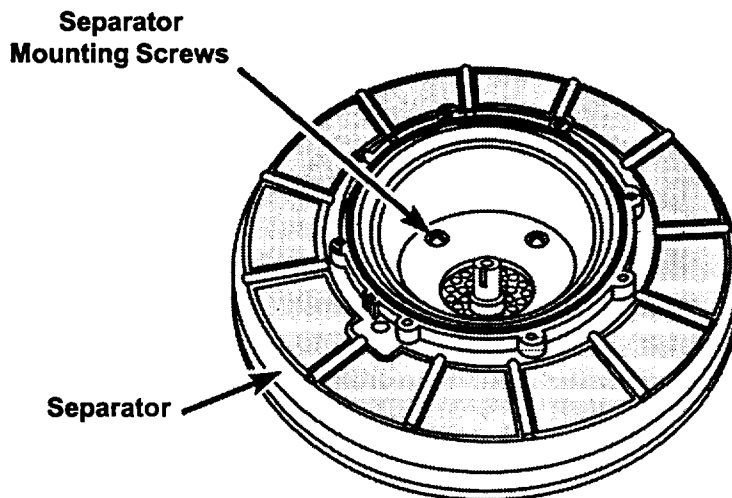

Fig. 6
5. Remove the three (3) Torx screws securing the separator to the pump base. (Fig. 6)